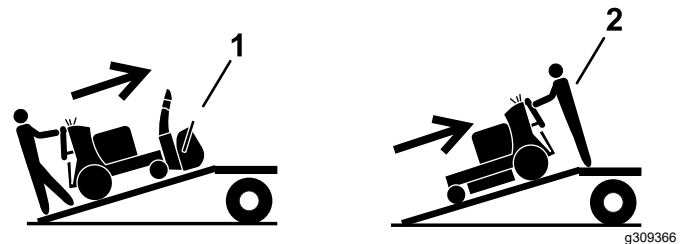

Figure 25
5. Load the machine onto the trailer with the heavy end up the ramp (Figure 25).